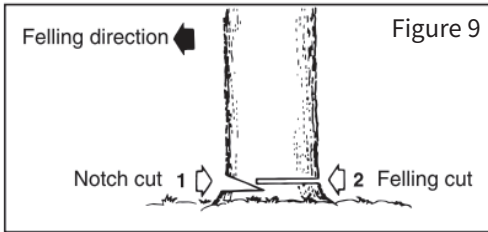

Figure 9
- Begin by making a notch on the chosen falling side (see Figure 9).